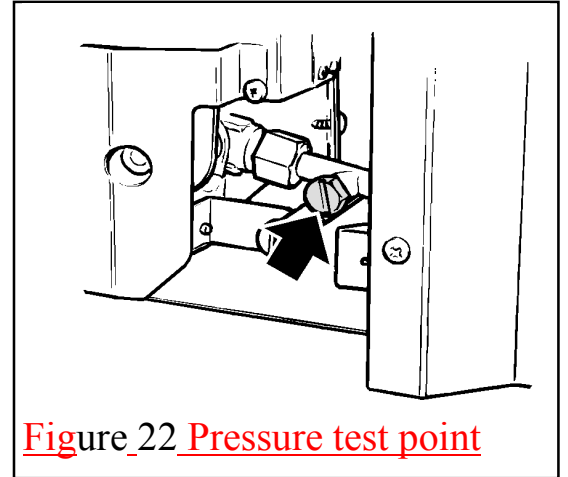

Figure 22 Pressure test point
1. Check the burner pressure by fitting a pressure gauge at the test point. The test point is on the pipe situated below the bottom right corner of the burner unit. See figure 22. Check the pressure with the appliance alight and set at maximum output.